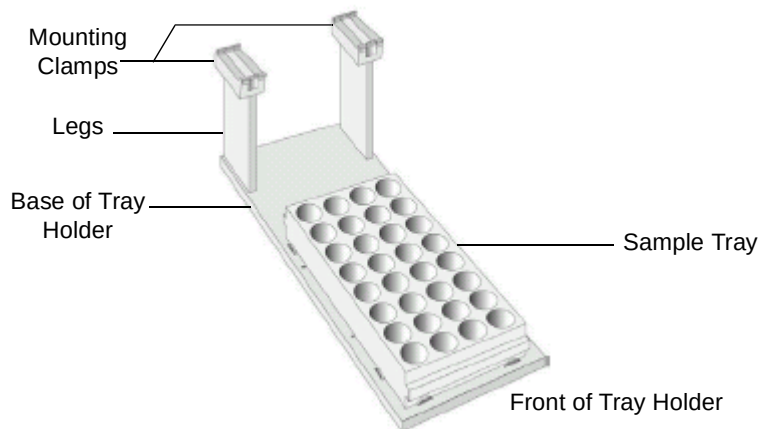

Figure 2-23 Installing a Tray Holder
1. Loosen the two TORX screws at the rear of the mounting clamps, which are located on top of the tray holder legs (Figure 2-23).